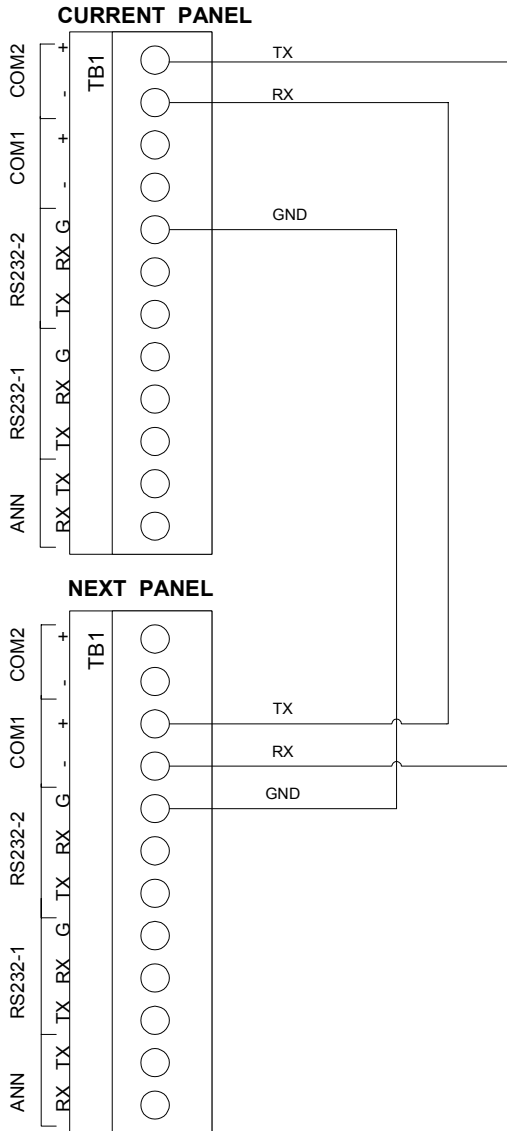

Figure 3. RS-232 Network Wiring
- RS-232 Network wiring (see Figure 3) uses three wires between each panel. COM2 of each unit should be, connected to COM1 of the next unit, and the wiring polarities should be flipped; i.e. COM1+ connects to COM2-, and COM1- to COM2+. Also, it is necessary to connect a ground wire between the two panels so that the transmitted RS-232 voltages have a reference. This ground wire should be connected to the ground block of the RS-232-2 port (also TB1) if the RS-232 wiring is for COM2, and the ground block of the RS-232-1 port (also on TB1) if the RS-232 wiring is for COM1. This wiring may only be wired to panels or modems within 20 feet of the network card.